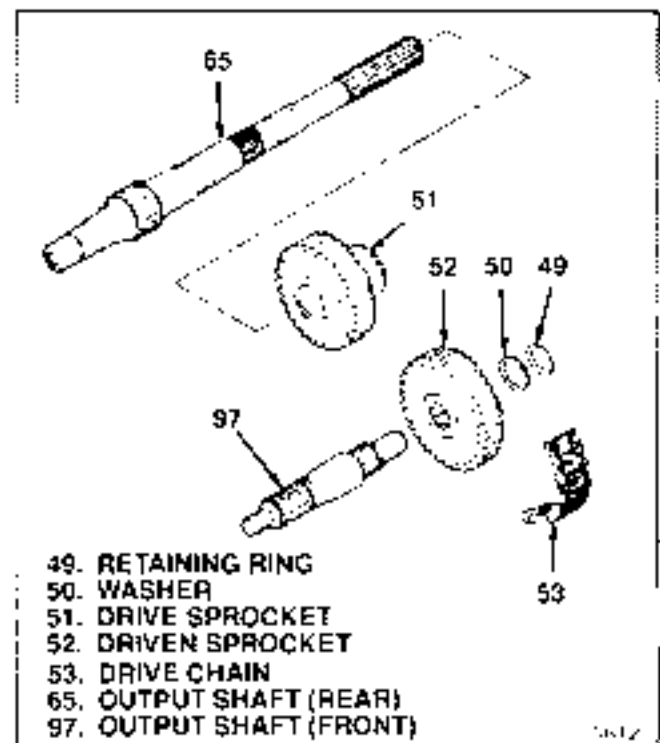

Figure 3-9. Chain Drive
**3-12. REMOVAL OF CHAIN DRIVE.** From remaining transfer case assembly (48 through 110), remove the following (see figure 3-9):
- a. Remove ret. ring (49) and washer (50) from output shaft (97).
- b. Together, slide drive sprocket (51), driven sprocket (52), and drive chain (53) from output shafts (65 and 97). Separate sprockets and chain when out of assembly.